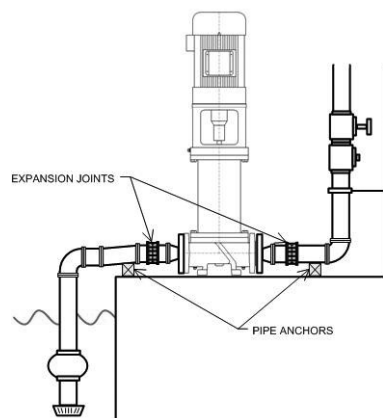

Figure 6: Correct Placement of Expansion Joint
4. When pumping liquids at elevated temperatures, it is recommended that expansion loops or joints be used in the suction and discharge piping. Refer to Figure 6 for correct placement to avoid pump strain or misalignment due to linear expansion of piping.